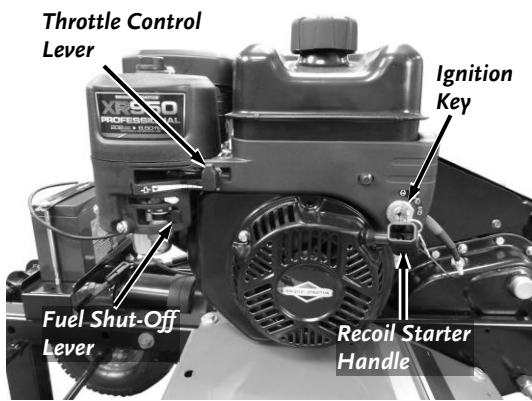

Figure 13
1. When starting a cold Engine, push the Choke Control Lever all to the left so it is in the CHOKE  position and then push the Throttle Control Lever to the left so it is in the RUN  position (Figure 13).